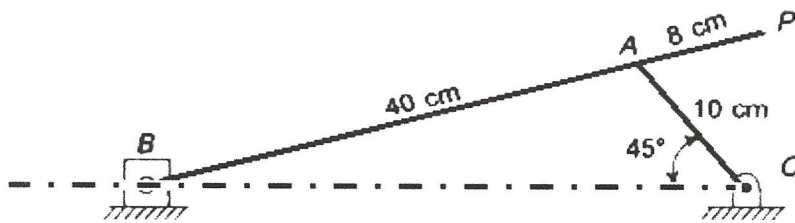

Figure Q5
- Q5** (a) What is inversion of mechanism in engineering words? List out **THREE (3)** examples of inversion mechanism. (4 marks)
- (b) In a slider crank mechanism shown in **Figure Q5**, the crank OA rotates clockwise about 'O' at 120 rpm.